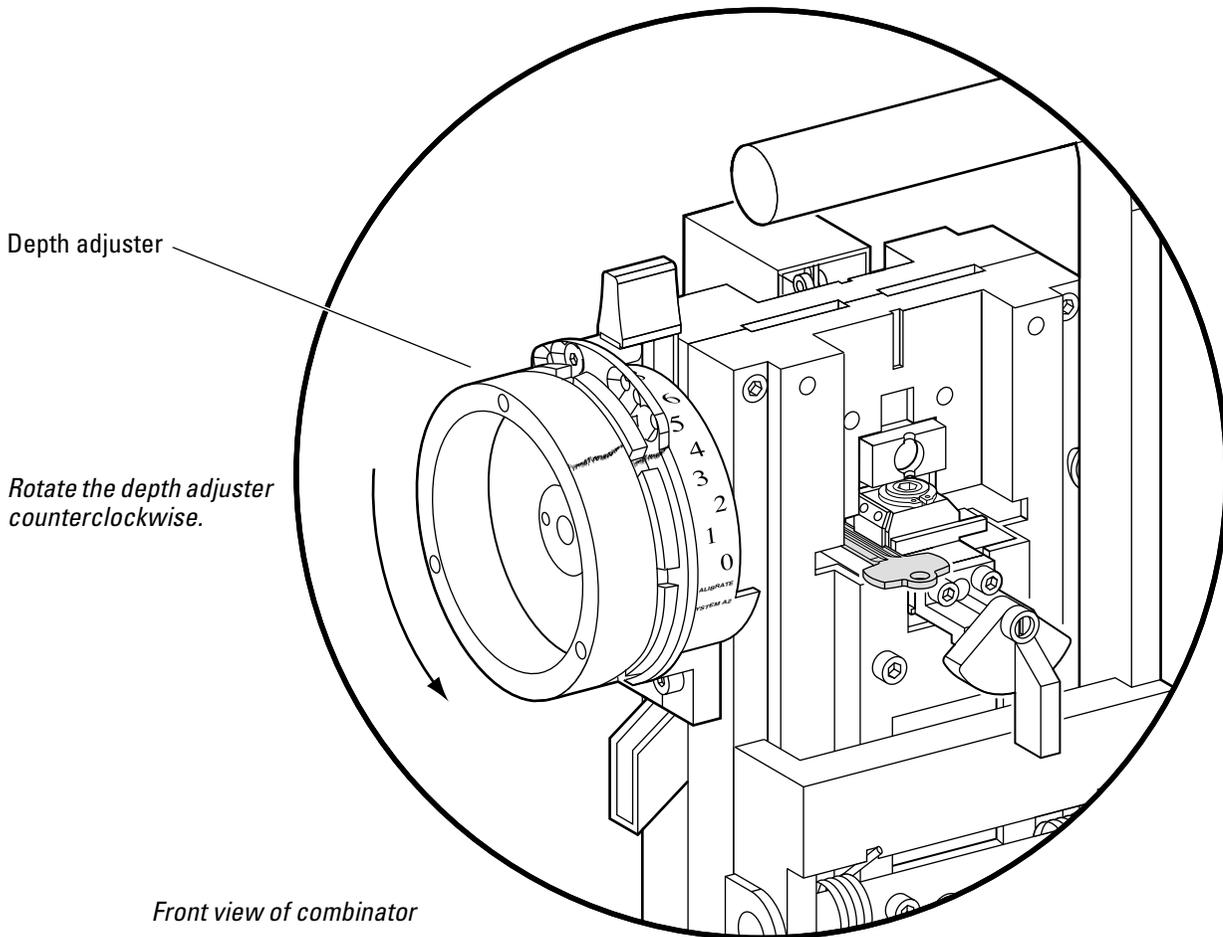

Figure 3.19 Turning the depth adjuster counterclockwise
3. Turn the depth adjuster counterclockwise (turning the depth adjuster $1/4$ " changes the cut depth by 0.001"—one thousandth of an inch). Use the lead or grease mark as your reference. See Figure 3.19.